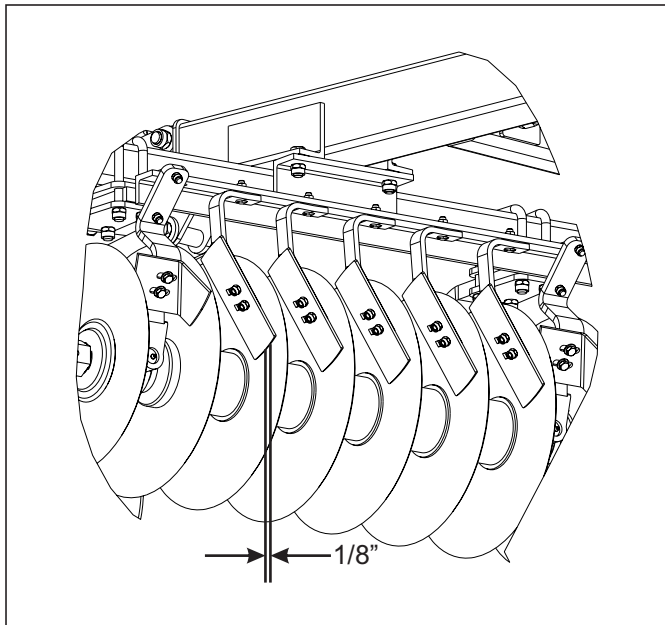

Figure 4-12: Scraper Adjustment
1. Rigid scrapers should be set initially as close to the disc blade as possible without rubbing (approximately 1/8") **See Figure 4-12.** A slotted hole at the top of each scraper is provided for individual adjustment. Adjustments may be made for entire gangs, by loosening the u-bolts around the angle-iron scraper bars and sliding the whole bar. Scraper arms are made of spring steel. In wet conditions, the scraper may be set against the disc blade and will function as a spring-loaded scraper.